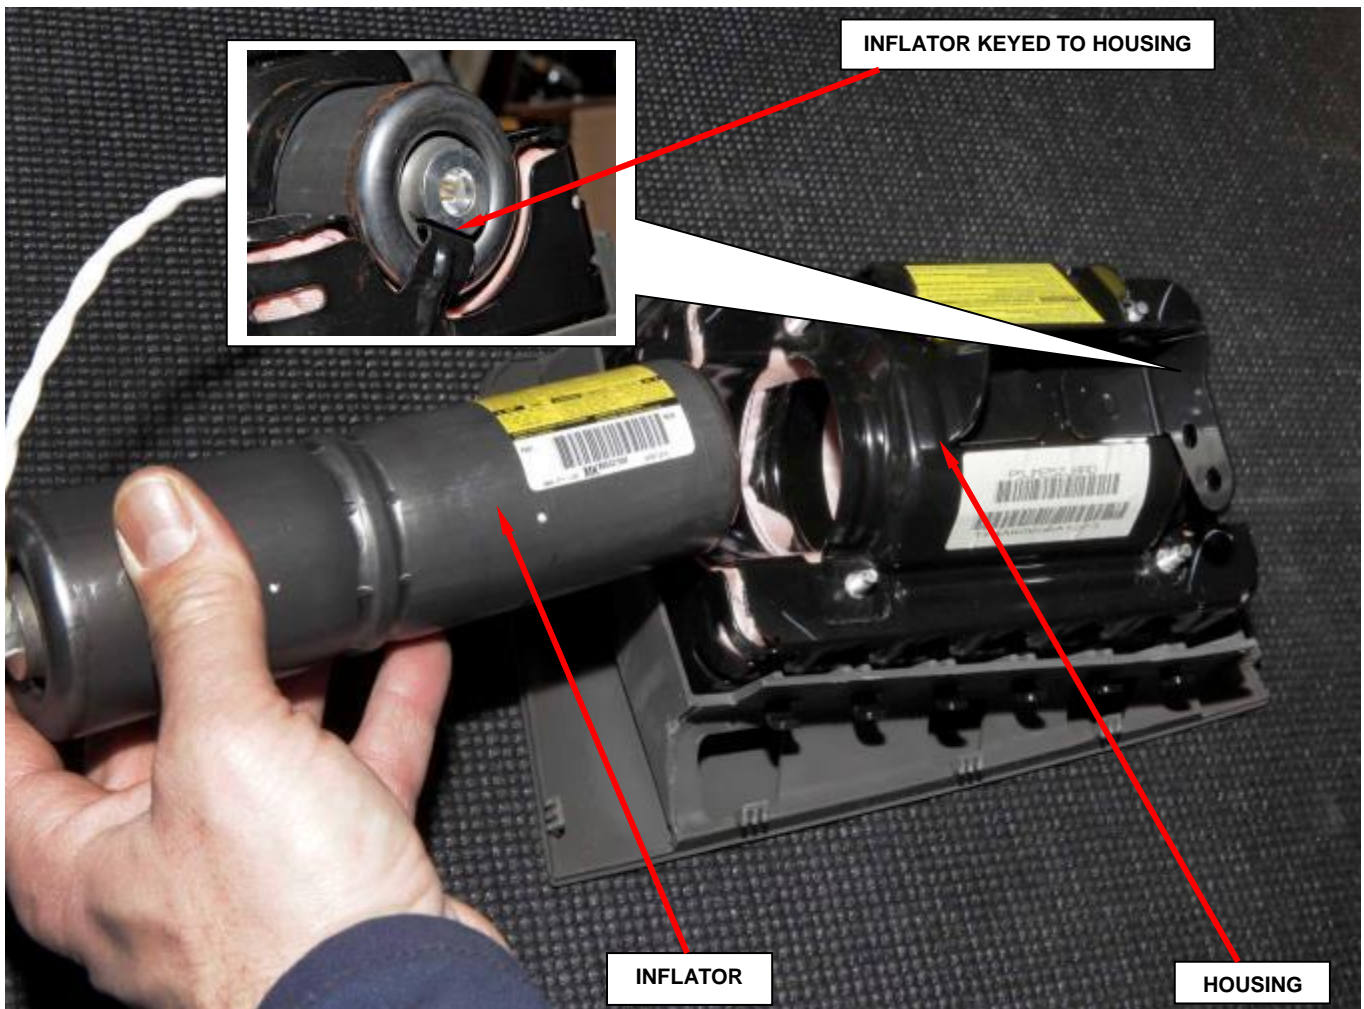

Figure 30 – Inflator Installation
NOTE: The inflator's key MUST line up with the housing's key (Figure 30).
- o. Slide the **new** inflator into the housing (Figure 30).